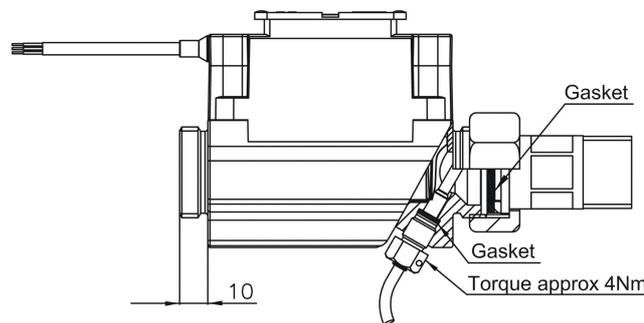

Figure 15. ULTRAFLOW® with gland and short direct sensor.
Glands and gaskets are mounted as shown in *Figure 15*, page 26.
**In connection with G3/4Bx110 mm and G1Bx110 mm, it must be checked that 10 mm thread run-out is sufficient. See Figure 15 below.**